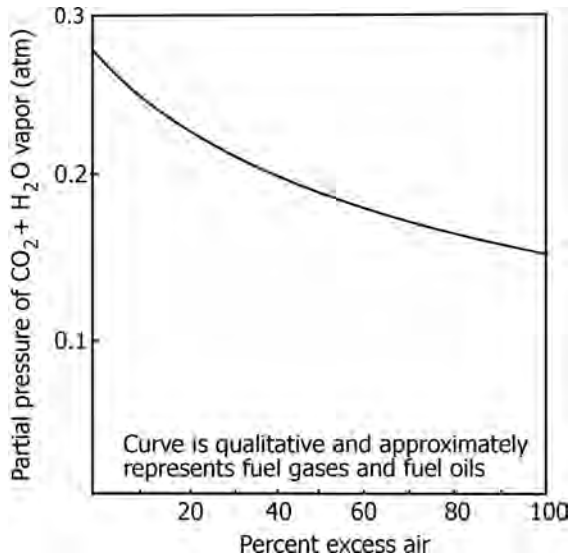

FIGURE 14.7 Partial pressure of CO₂ + H₂O in flue gases.
- Figure 14.7 shows the partial pressure of CO₂ + H₂O vapor as a function of excess air for the hydrocarbon fuels normally used for firing.